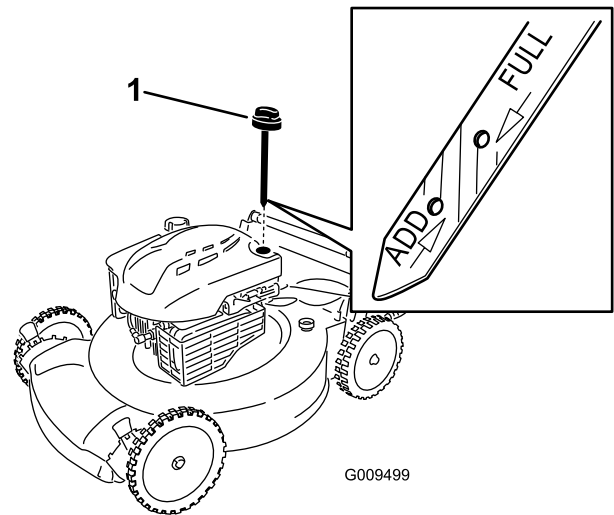

Figure 23
3. Remove the dipstick (Figure 23).
10. Read the oil level on the dipstick (Figure 23).